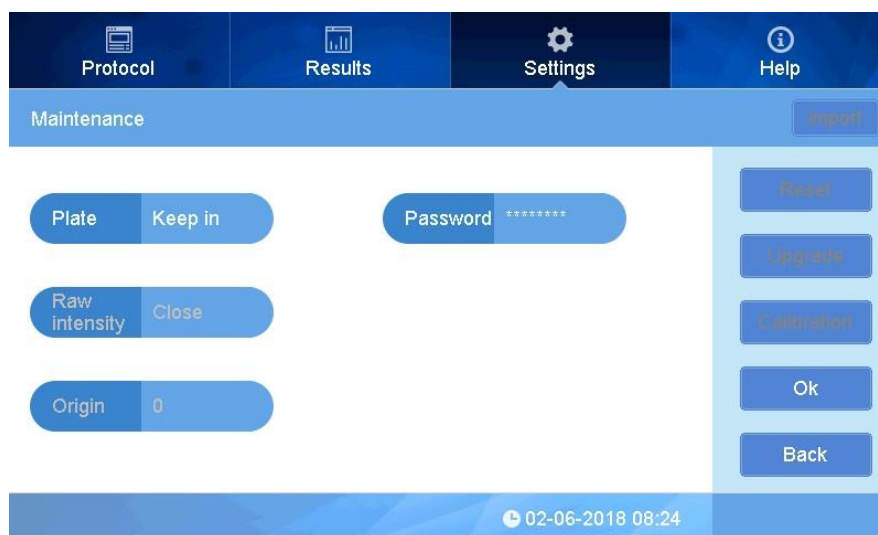

Fig. 49 Maintenance
2. Click the blank position No., input the wavelength using the pop up window (Fig 49).